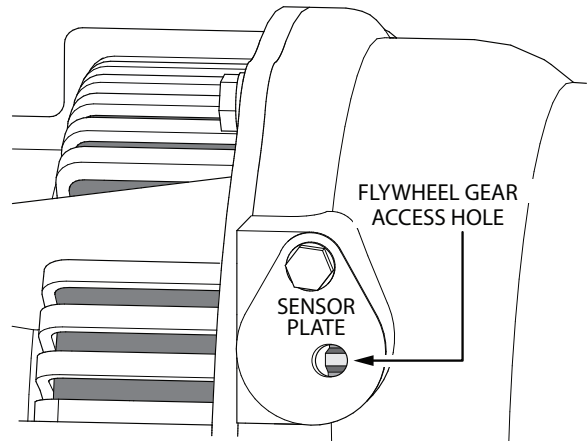

Figure 78. Flywheel Gear Teeth Alignment
4. Attach a ratchet to the crankshaft pulley and rotate the flywheel gear until the **highest point** of the flywheel gear tooth is visible as shown in Figure 78.